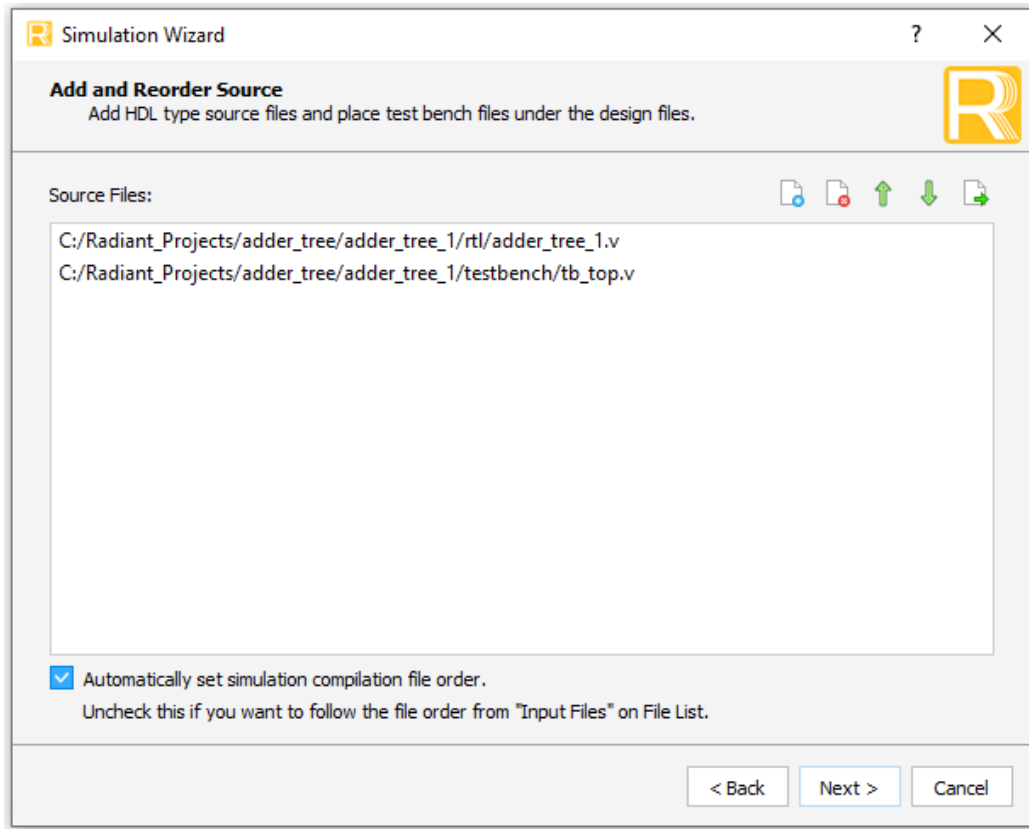

Figure 3.5. Adding and Reordering Source
- Click **Next** to open the Add and Reorder Source window as shown in Figure 3.5.